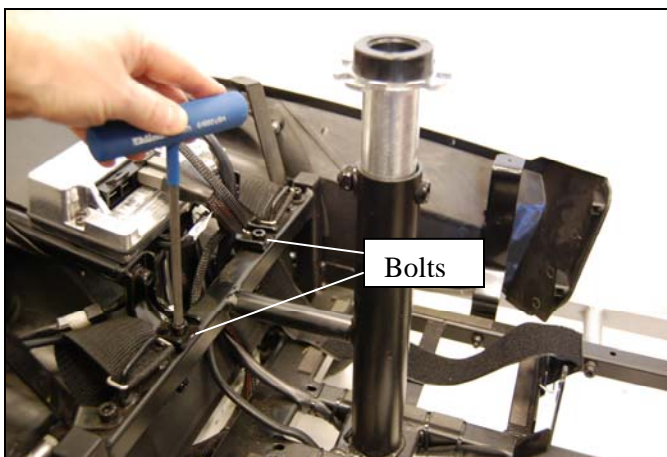

Figure 22. Controller Bracket Removal
- 2) Remove the (2) 6mm Allen bolts connecting the controller bracket to the scooter frame. They are located inside the battery compartment directly behind the seat pedestal. See figure 22. **Note: If the bolts will not turn freely, loosen them by tapping the bolt heads with a hammer.**